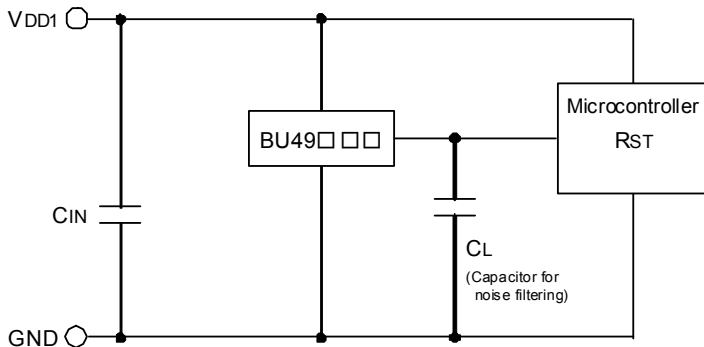

Fig.16 CMOS Output type
CASE2: The power supply of the microcontroller (VDD1) is same as the power supply of the reset detection (VDD1). Use CMOS output type (BU43□□G/FVE) or Open Drain Output Type (BU48□□G/FVE) attached a load resistance (RL) between the output and VDD1. (As shown Fig.16)